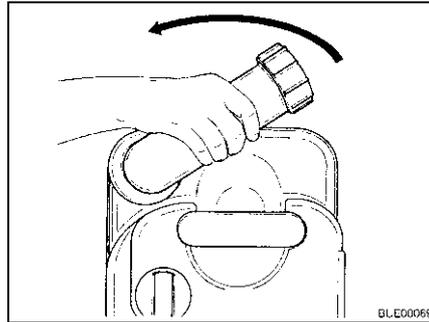

Fig. 153 Turning drainage neck
- Turn the drainage neck upwards (Fig. 153).